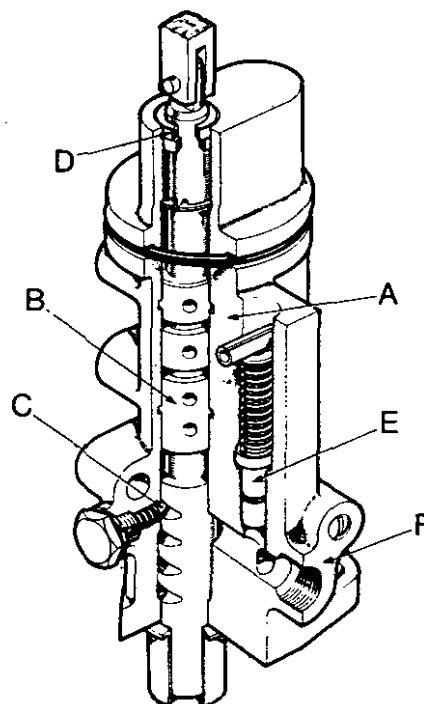

FIGURE 40 SPOOL VALVE
1. Remove the plug from the side of the valve body. Remove the spring and the detent ball. See figure 40.